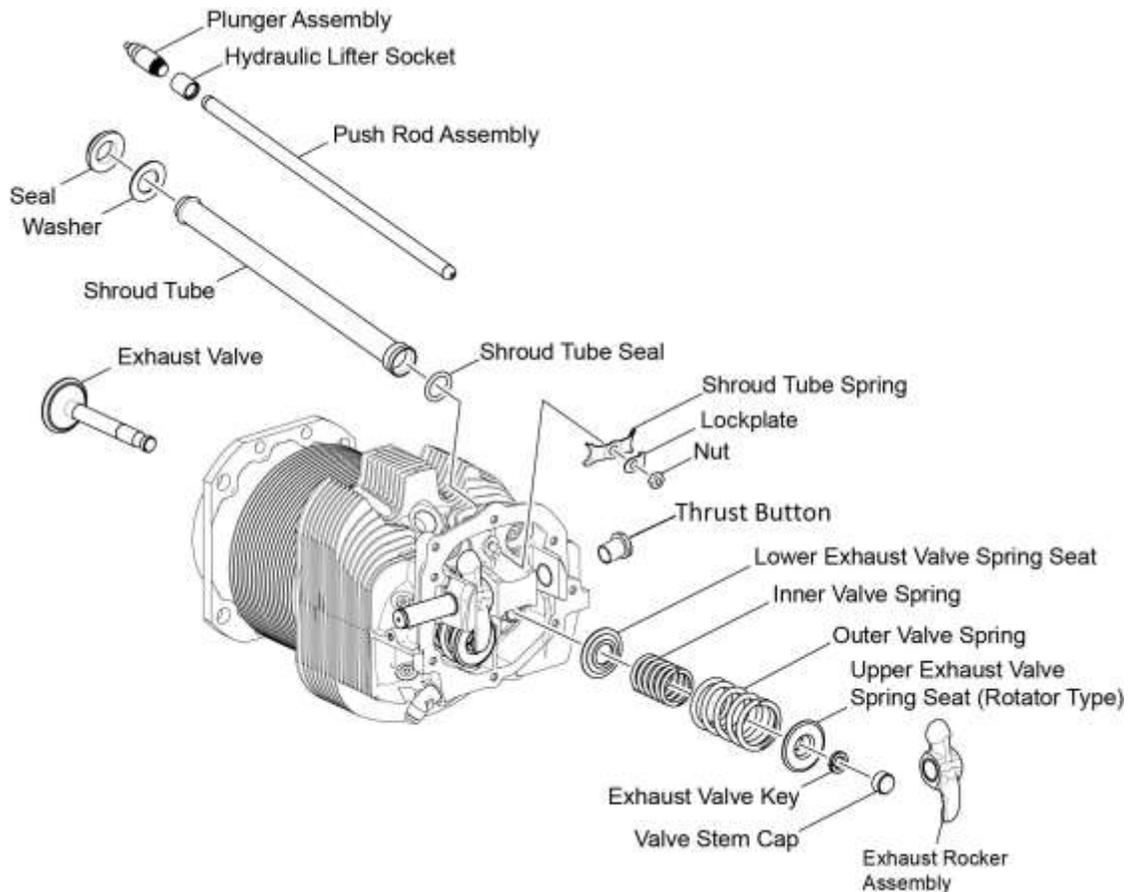
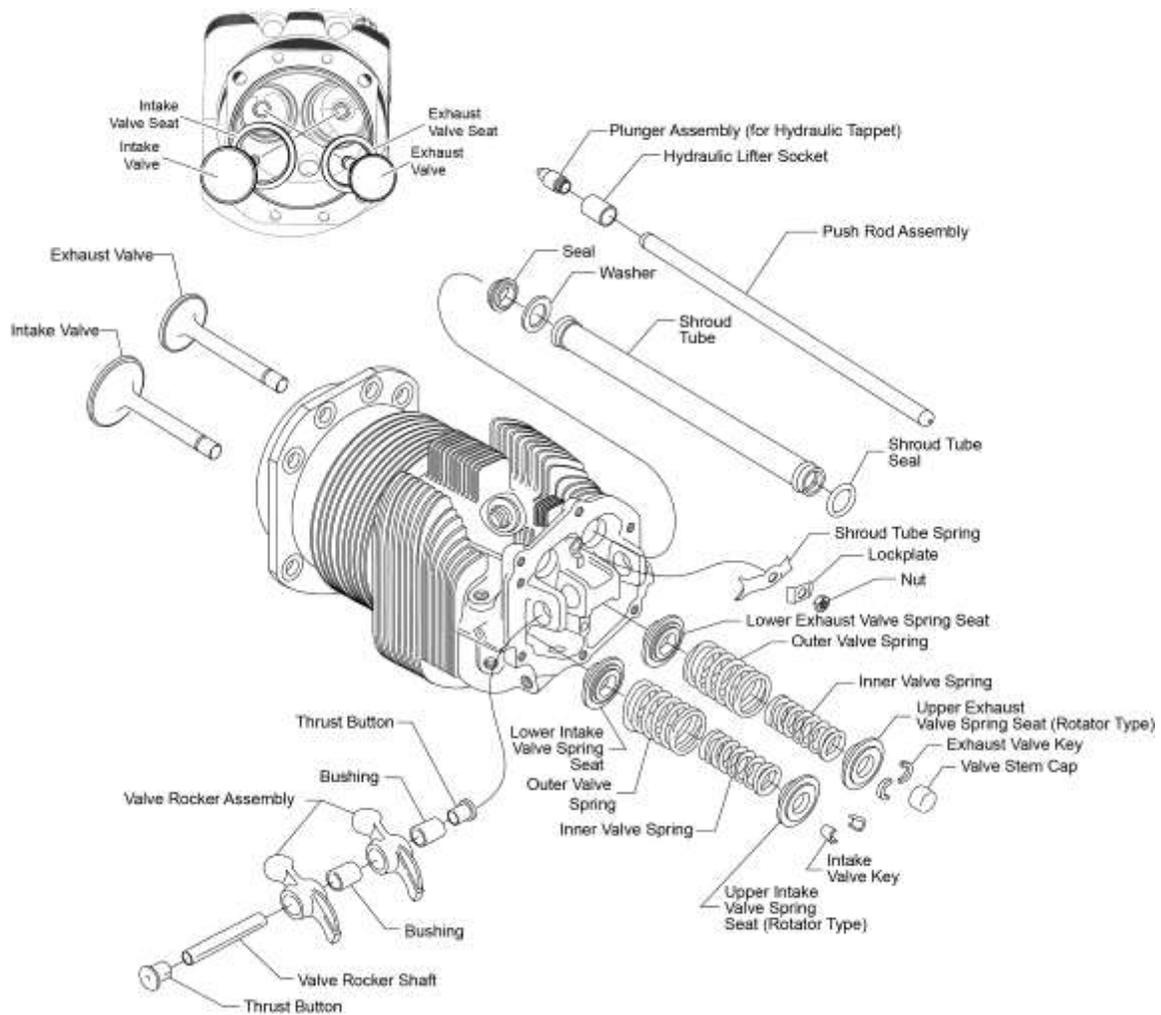

Figure 5
Figure 15
- (6) Remove the thrust button from the exhaust side of the valve rocker shaft (Figure 5) and push the valve rocker shaft toward the intake side enough to remove the exhaust valve rocker assembly.
- (14) Remove the nut, lockplate, and shroud tube spring (Figure 5). Discard the lockplate.
- (15) Remove the exhaust side push rod, shroud tube, hydraulic lifter socket, plunger assembly, washers, and seals from the engine cylinder. Discard the seals.
NOTICE: Do not confuse “valve spring seats” with “valve seats,” valve spring seats (Figure 5) are metal disks installed on the ends of the valve springs in the rocker box and are field replaceable. Valve seats (Figure 15) are installed inside the cylinder at the surface where the intake or exhaust valve rests during engine operation when that valve is closed. Valve seats only can be replaced by an authorized vendor.
- (16) Use a cloth dampened with mineral spirits to wipe the oil from the top surface of the valve spring seat on the exhaust valve (Figure 5).
- (32) Examine and install an acceptable plunger assembly and hydraulic lifter socket in the exhaust side tappet bore of the crankcase. Refer to the latest revision of Service Instruction SI-1011 for plunger assembly inspection guidelines.
- (33) Apply engine oil mixture (15% pre-lubricant (STP or equivalent) and 85% SAE No. 50 mineral base aviation grade lubricating oil) to the new seal and shroud tube seal (Figure 5).
- (34) Install a new seal and the washer into the cup in the exhaust side tappet bore of the crankcase.
- (35) Assemble the new shroud tube seal over the outer end of the shroud tube.
- (36) Insert the shroud tube through the hole in the rocker box and seat the end firmly into the crankcase.
- (37) Install the shroud tube spring, new lockplate, and nut. Torque the nut to 96 in.-lb. (11 Nm).
- (44) Install the valve rocker assembly and bushing (Figure 5).
- (45) Push the valve rocker shaft through the exhaust valve rocker assembly (Figure 15) and install the thrust button on the end of the valve rocker shaft.
- (46) Complete a dry tappet clearance check per the “Push Rod Installation” section in this chapter.
H. Remove both thrust buttons from the ends of the valve rocker shaft (Figure 15).
K. Remove the nut, lockplate, and shroud tube spring (Figure 15). Discard the lockplate.
Look for wear or broken parts in the area of the valve, springs, and spring seats. Corrective Action: If a spring seat is loose, scored, pitted, or damaged, either replace the cylinder or send the engine cylinder to an authorized vendor to replace the spring seat. (Figure 15).	Cylinder 1